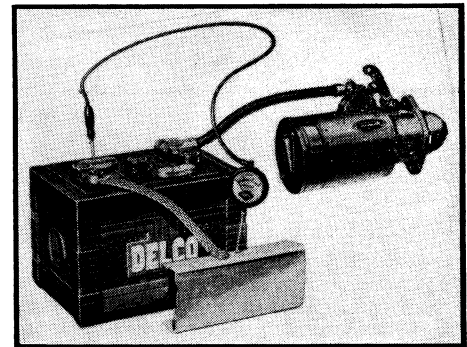

Fig. 4 Checking voltage drop between vehicle frame and grounded battery terminal post
1. Voltage drop between car frame and grounded battery terminal post (not cable clamp), Fig. 4.